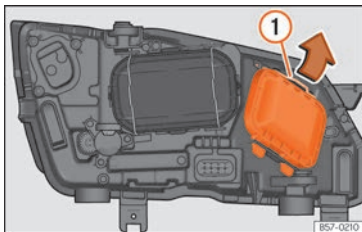

Fig. 57 In the engine compartment: remove the cover.
- Move the loop »» Fig. 57 ① in the direction of the arrow and remove the cover.